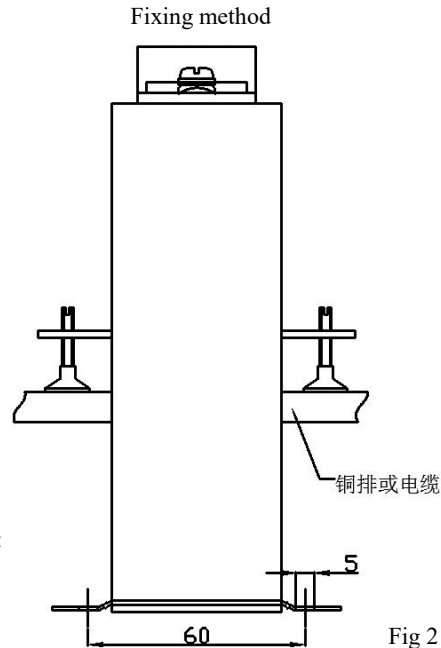

Fig 2
Take the two feet ( supplied with the product ) and insert them into the foot sockets on the bottom plate as shown in Figure 2. The center distance of the mounting holes is  $60 \times 89$  ; the mounting hole diameter of the feet is  $\Phi 5.0$ ; the transformer can be fixed on the bottom plate with M5 screws. (Note: Another 6 8 hole spacing mounting plate is optional)
Take two legs with M5 holes ( supplied with the product ) and insert them into the bus bar leg slots as shown in Figure 2. The center distance of the M5 holes is 59, and the transformer can be fixed on the bus bar with M5 screws.
- ② The coil diagram is shown in Figure 2: